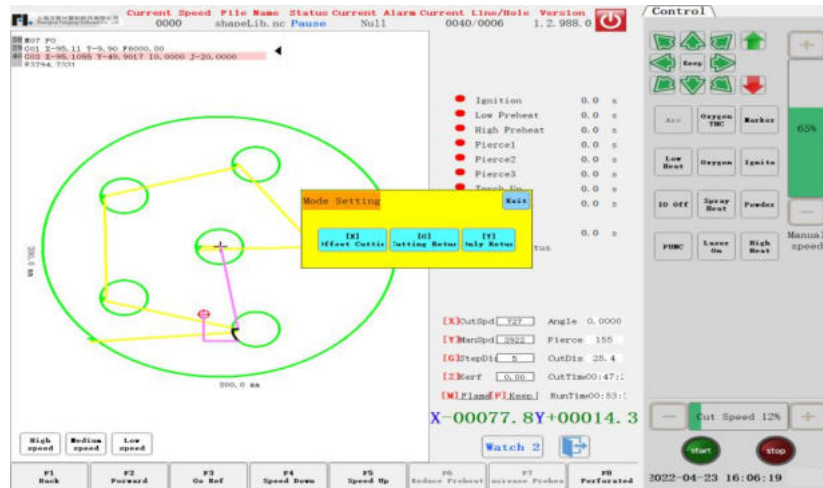

Figure 6.23 Operation of selecting row selecting holes
- When the cutting gun bias the original cutting path, press START key in the cutting interface, the system prompts as shown in Fig. 6.23, press Y key, the system will directly empty to the selected line number or perforation point, if press X key, the system will return to the original cutting path in the current position to start processing, if press G key, the system will start processing in the current position.